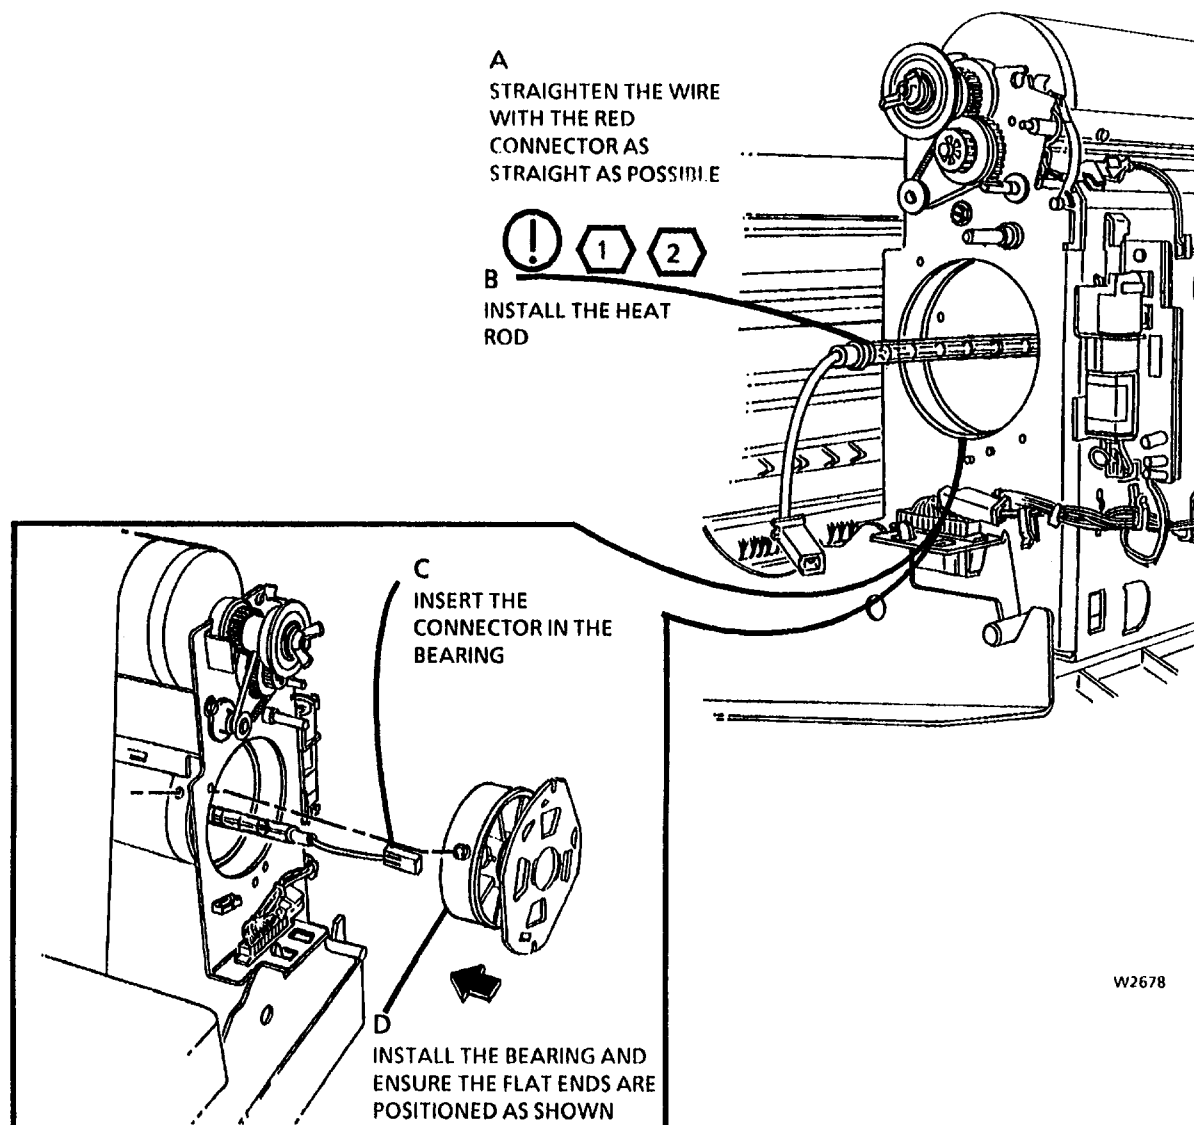

Figure 5. Install the Heat Rod
1. (Figure 5): Install the Heat Rod.